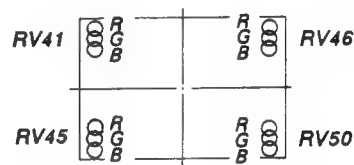

Fig. 1-23.
3. Adjust RV41, RV45 and RV46, RV50 on the DC board to coincide with the R, G and B dots as shown in Fig. 1-23.